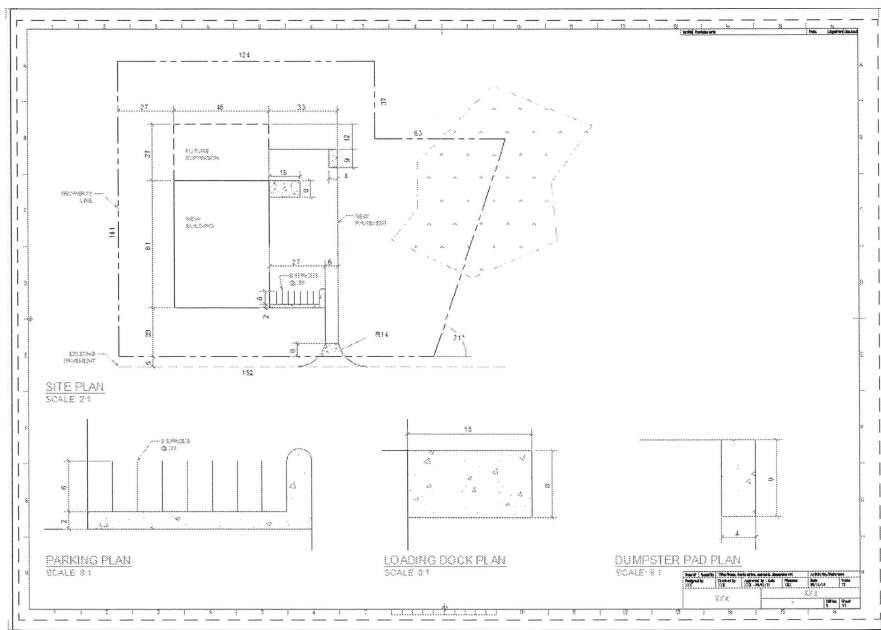

Figure 12–32
- Set the current layer to **Dimensions** and add the required dimensions to each viewport, as shown in Figure 12–32. Use the annotative **Civil** dimension style. Use text to input the property line dimension information, as shown previously in Figure 12–28.
2. In the **Text** layer, add titles to label each view and the other text as required. The *text height* for titles is **0.25** with the **Hand** text style. All of the other text (refer to Figure 12–28) is **0.18** with the **Standard** text style. The titles of the viewports are as follows: